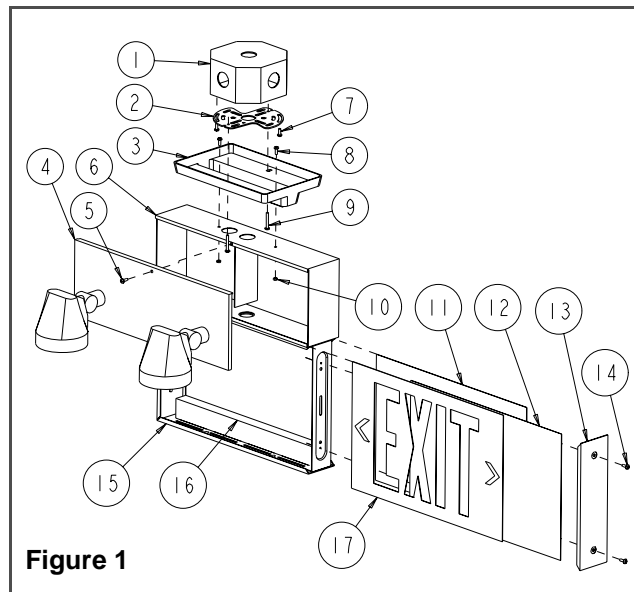

Figure 1
3. To open the sign, remove screws from the end cap (see fig. 1) and slide out the face plate and fiberglass diffuser.